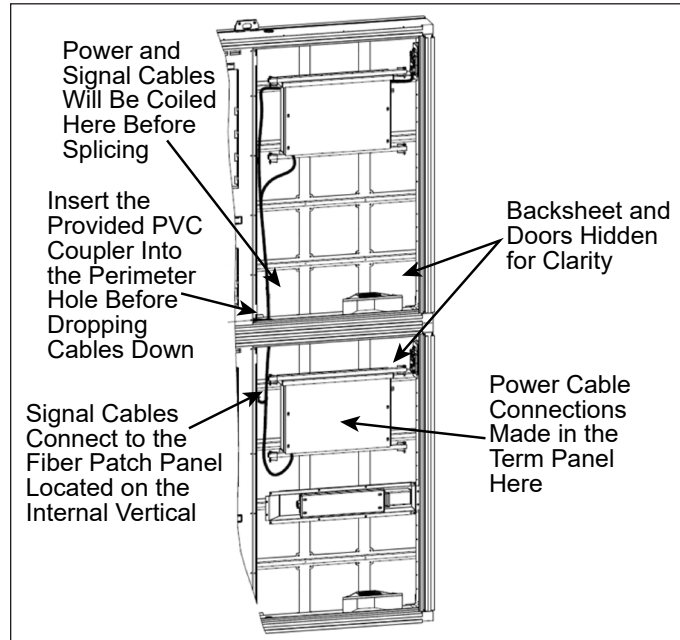

Figure 19: Power and Signal Splice Connections
20. Connect the signal splice cables from the display top section by passing them through the conduit sleeve. Refer to **Figure 19**.